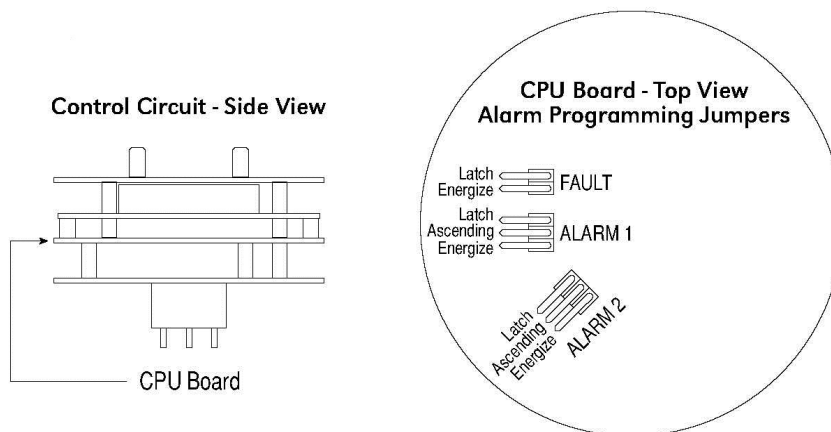

Figure 9 Alarm Programming Jumpers
- e. Program the alarms via the gold plated jumper tab positions located on the CPU board (see Figure 9). Alarm 1 and Alarm 2 have three jumper programmable functions: latching/non-latching relays, normally energized/normally de-energized relays, and ascending/descending alarm set points. The fault alarm has two jumper programmable functions: latching/non-latching relay, and normally energized/normally de-energized relay. The default settings of the alarms (jumpers removed) are normally de-energized relays, non-latching relays, and alarm points that activate during descending gas conditions.